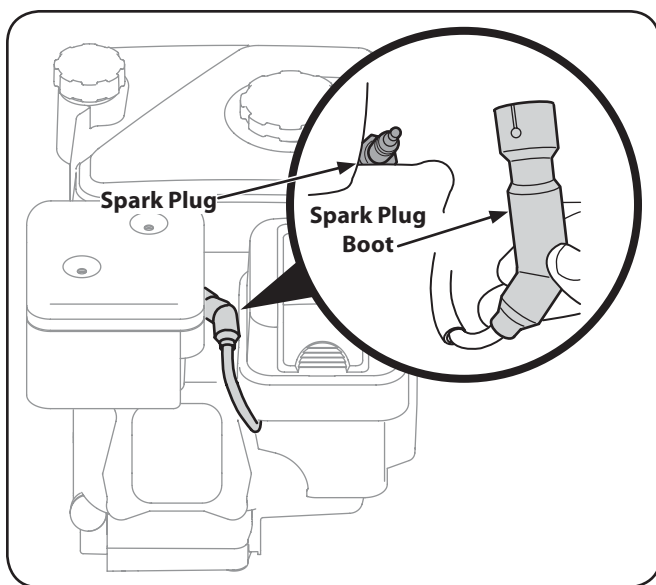

Figure 6-1
1. Carefully disconnect the spark plug wire and keep it away from the spark plug. Refer to Fig. 6-1 for spark plug location.